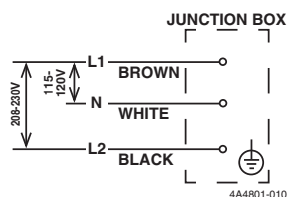

Fig. 14a
4. Electrical connections must be made in accordance with the instructions on the "WARNING" tag, provided with the pig tail leads in the remote condensing unit junction box. See Fig. 14a and 14b.